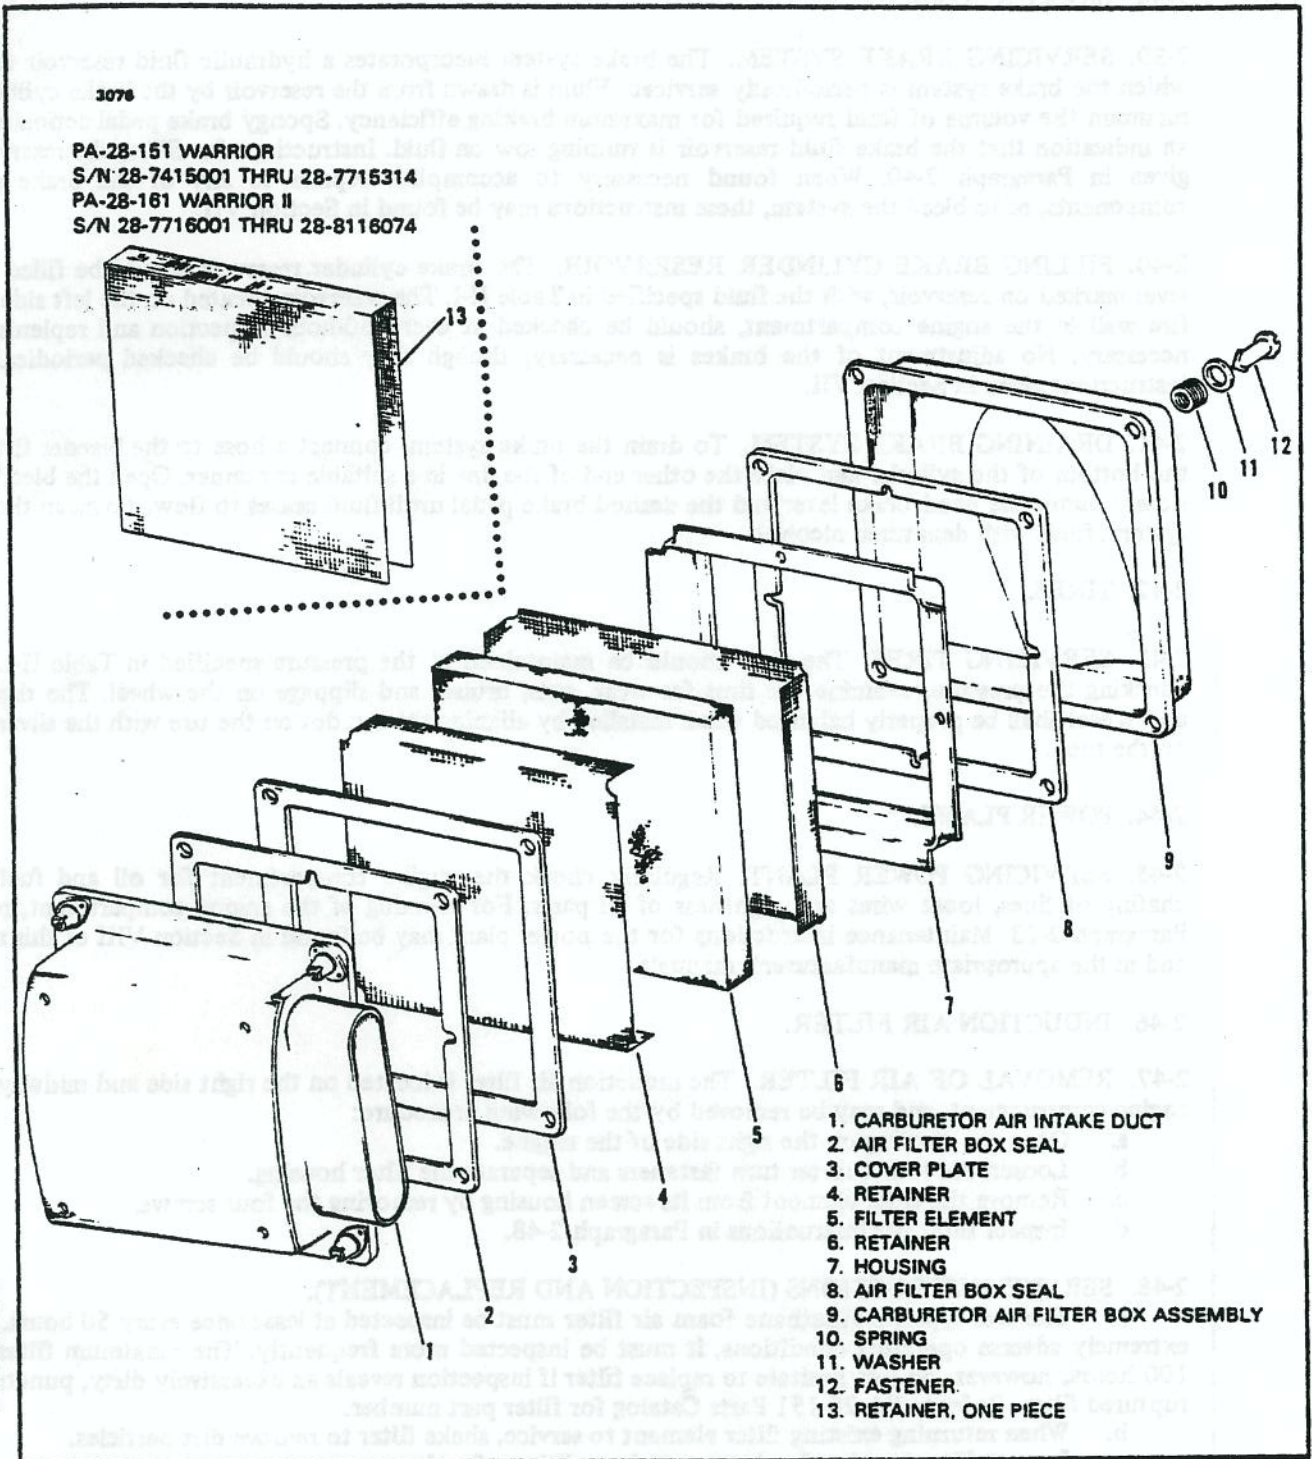

Figure 2-8a. Induction Air Filter
**2-49. INSTALLATION OF AIR FILTER.** After replacement and/or inspection, install filter element in screen housing. On PA-28-151 (S/N 28-7415001 through 28-7715314) and PA-28-161 (S/N 7716001 through 28-8116074) insure the two retainers are properly positioned around the filter element according to figure 2-8a. Also available is a one-piece retainer screen which can replace the two retainer screen (refer to latest revision of Service Letter 891). The one-piece retainer screen will be installed in PA-28-161 (S/N 28-8116075 and up) and is mounted to the lower cowl or housing. Position in place and secure with four quarter turn fasteners.